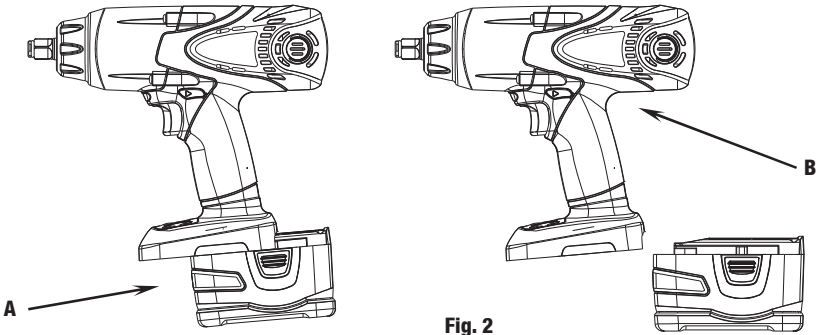

Fig. 2
TO REMOVE BATTERY PACK: Depress the battery release button and pull battery pack (A) out of tool (B). (see Fig. 2)
TO INSTALL BATTERY PACK: Push battery pack (A) onto tool until it locks in place. (see Fig. 2)